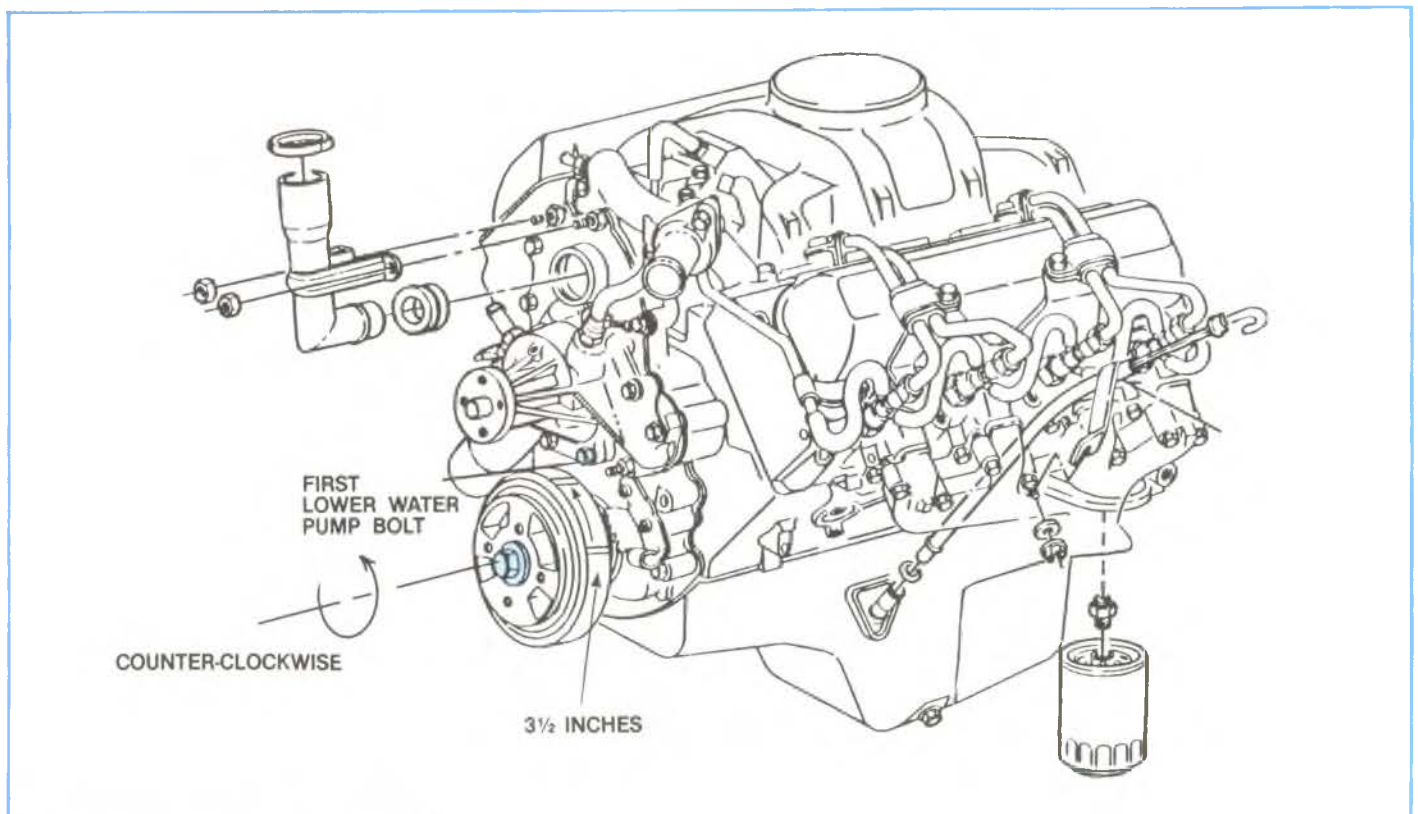

Figure 2-9, Balancer Position.
2. Rotate engine $3\frac{1}{2}^{\circ}$ counter clockwise (measured on balancer) or to first lower water pump bolt (See Figure 2-9). This procedure will position the engine so that no valves are close to a piston head. This is 30° BTDC.